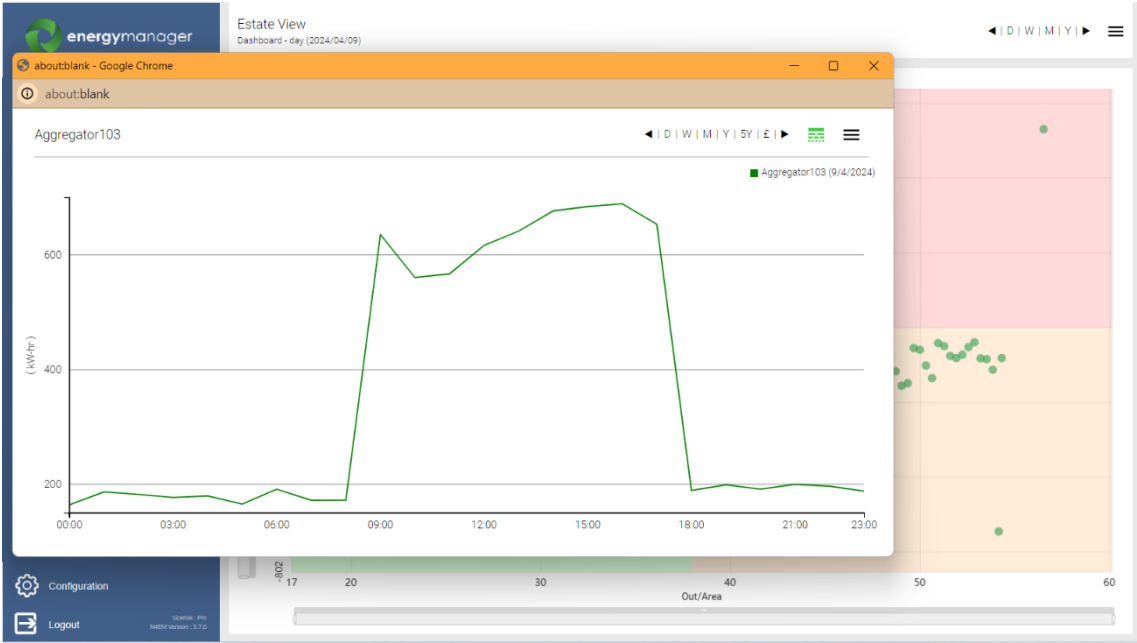

Figure 95 - Line Chart Popup from Data Point Click
- Each datapoint on the scatterplot represents an Aggregator. Clicking a dot opens a popup with a line chart for the chosen time range of the corresponding aggregator (see Figure 95).